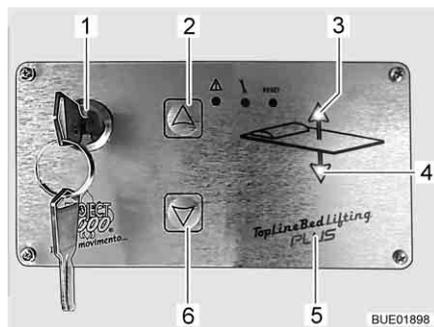

Fig. 105 Control unit
The pull-down bed is raised or lowered using the buttons (Fig. 105,2 and 6) on the control unit (Fig. 105,5). The control unit is protected against unauthorized use with the key switch (Fig. 105,1).
- Turn the key in the key switch (Fig. 105,1) through 90° clockwise. The control unit (Fig. 105,5) is activated. Both indicator lamps (Fig. 105,3 and 4) light up in green.
- Press the arrow key (Fig. 105,6) and keep it pressed until the bed reaches the next programmed position below. The green indicator lamp is on while the bed is moving (Fig. 105,4).
- If necessary, press the arrow key (Fig. 105,6) again to reach the next position.
- ▷ To prevent accidental incorrect operation, the key can be removed from the key switch (Fig. 105,1). This necessitates the key being turned anticlockwise.
- Press the arrow key (Fig. 105,2) and keep it pressed until the bed reaches the next programmed position above. The green indicator lamp is on while the bed is moving (Fig. 105,3).
- If necessary, press the arrow key (Fig. 105,2) again to reach the next position.